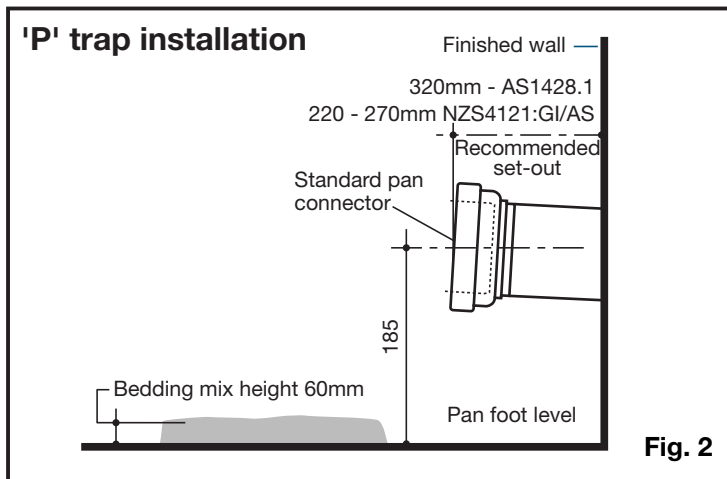

Fig. 2
The soil pipe and pan collar should be accurately fixed into position as recommended for Caroma cisterns, as detailed in Figure 1 and Figure 2. Refer to website for further details: www.caroma.com.au or www.caroma.co.nz
- 4- Prepare bedding sand cement mixture 3:1 to depth of 60mm as detailed in Fig. 1 or Fig. 2. Note: Do not fill the foot of the pan with bedding mix or include lime or fast drying cement into the mix, these may cause cracking in the foot of the pan.